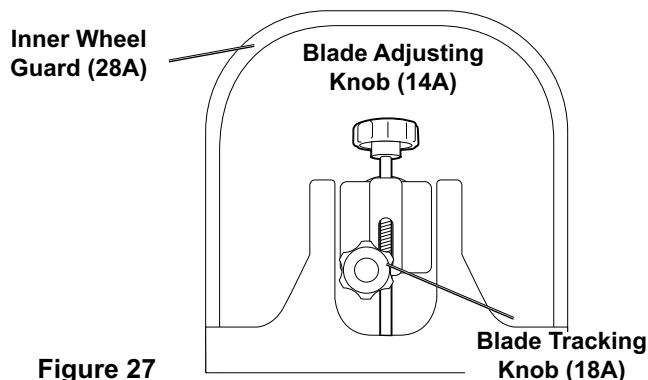

Figure 27
**NOTE:** If the blade is too tight for positioning, turn the Blade Adjusting Knob (14A) counter-clockwise to loosen just enough to get the blade onto the upper and lower wheels. See Figure 27 for location of the knob.